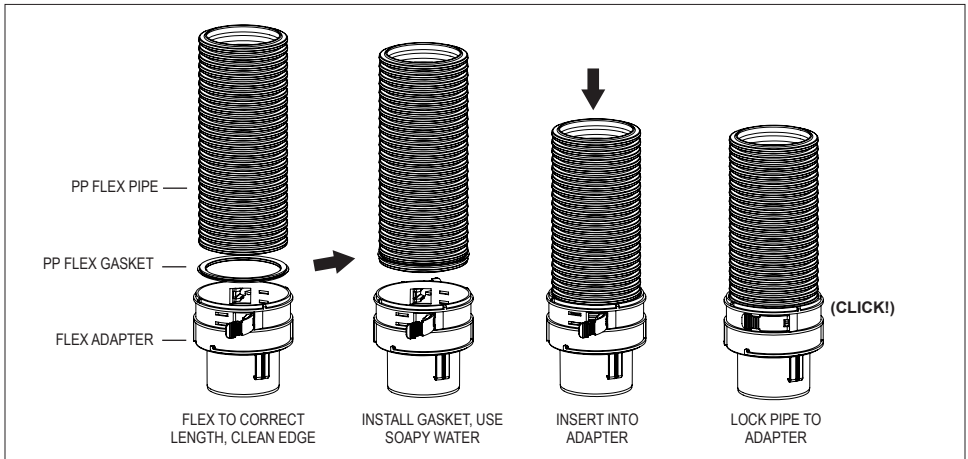

Figure 2, Installing Gasket / Flex Adapter
3. Open the locking tabs (x2) of the appropriate flex fitting to accept the flex pipe (Fig.2)
4. Apply soapy water to the gasket, and push pipe/gasket into appropriate flex fitting, seating pipe down until it bottoms out (Fig.2).